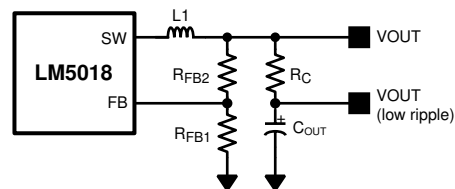

图 7-1. Low Ripple Output Configuration
This regulator regulates the output voltage based on ripple voltage at the feedback input, requiring a minimum amount of ESR for the output capacitor (C_{OUT}). A minimum of 25 mV of ripple voltage at the feedback pin (FB) is required for the LM5018. In cases where the capacitor ESR is too small, additional series resistance can be required (R_C in 图 7-1).
For applications where lower output voltage ripple is required, the output can be taken directly from a low ESR output capacitor, as shown in 图 7-1. However, R_C slightly degrades the load regulation.